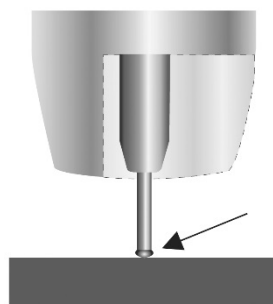

Fig. 27
1. The wire approaches the workpiece and touches the work creating a short-circuit between the wire and the base metal, because there is no space between the wire and the base metal there is no arc and current flows through the wire (Fig. 27)